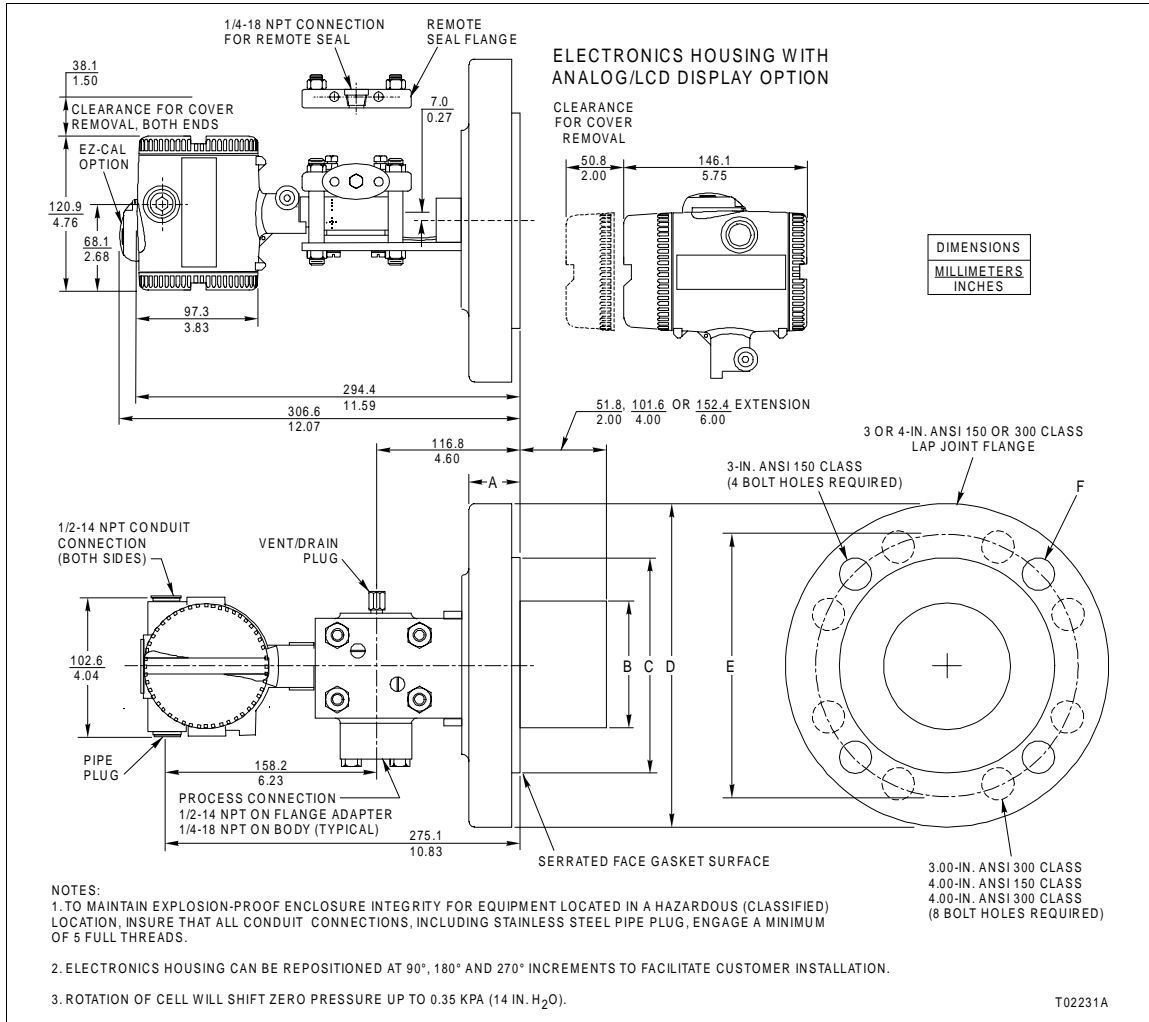

Figure 3-1. External and Mounting Dimensions
When mounting the transmitter, leave ample clearance to open the cover of the electronics housing (Fig. 3-1). Wire the transmitter with a twisted, shielded pair cable for best results. Avoid sources of RFI. Refer to Table 3-1 for the A through E dimensions shown in Figure 3-1.
Table 3-1. Dimensions for Figure 3-1
Refer to Figure 3-1 for the external and mounting dimensions of the transmitter.
Refer to Figure 3-1 for identification of the optional vent/drain plugs.
2. Position the EZ CAL option on top of the transmitter (Fig. 3-1).